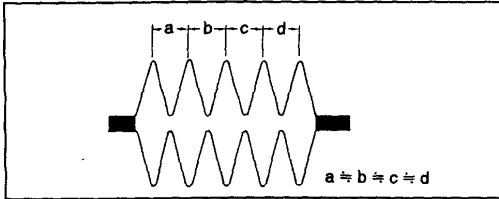

Fig. 4-11.
(See Fig. 4-11.)
- 1) Play back the alignment tape for tracking adjustment and set the REV mode. Confirm that waveform peaks maintain a constant pitch of 5 seconds or more (See Fig. 4-11). In case pitch is not constant, perform section 4-4. Tracking Fine Adjustment and section 4-6. No. 7 Guide Adjustment.
- 2) Set the CUE mode. Confirm that waveform peaks still maintain a constant pitch of 5 seconds or more (See Fig. 4-11). Otherwise, perform section 4-4. Tracking Fine Adjustment.